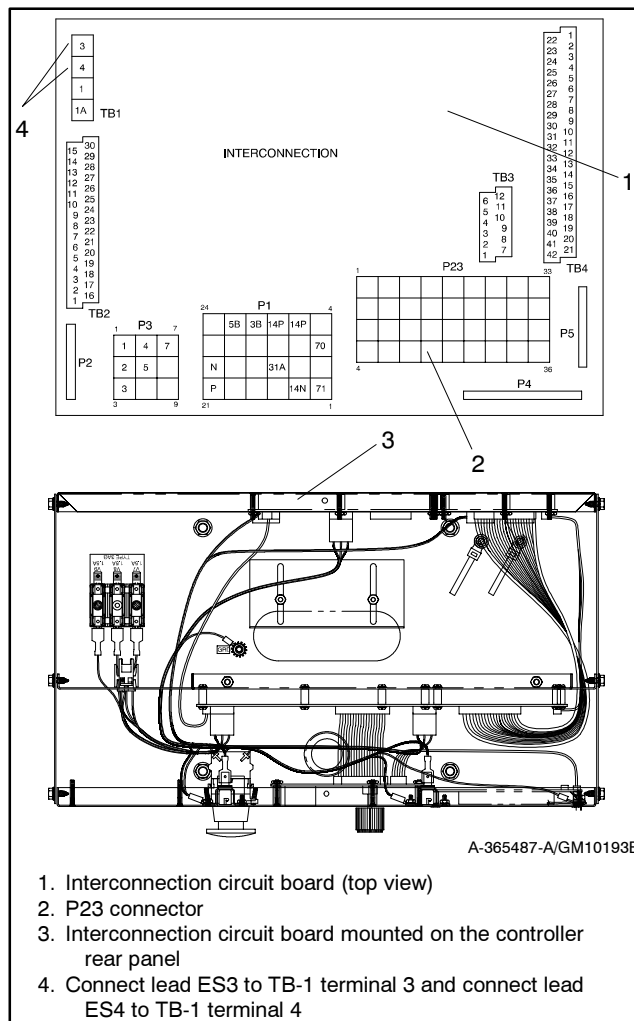

Figure 5 Attaching Wiring Connection Harness to Controller Circuit Board
2.6 Plug the wiring harness connector into the interconnection circuit board's P23 connector. Connect lead ES3 to TB-1 terminal 3 and connect lead ES4 to TB-1 terminal 4. See Figure 5. If access to the interconnection circuit board is difficult, remove the two controller panel top screws, center bottom screw, and then loosen the bottom screws to swing the rear controller panel down.